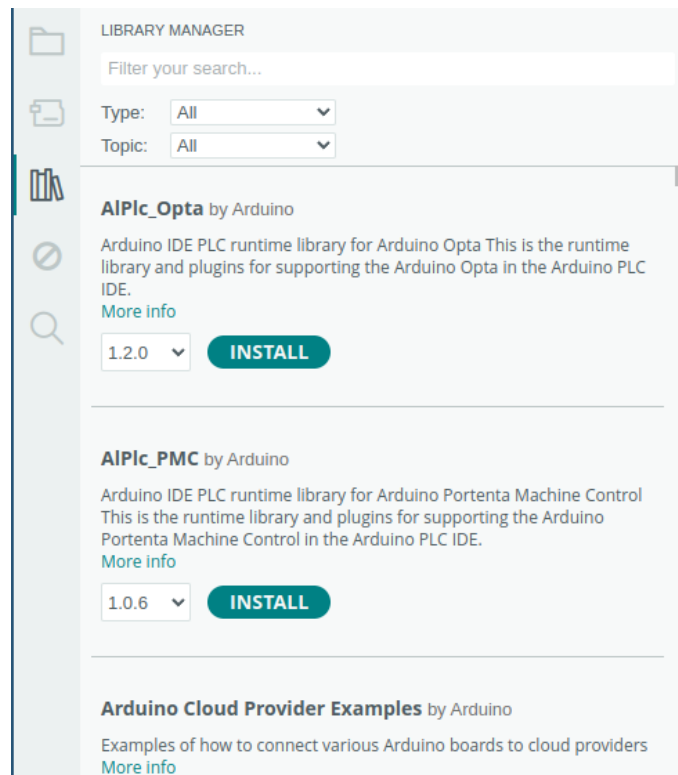

Figure 7: Open the Library Manager to Install Dependencies.
2. **Install Dependencies** - There is one more file that we need to be able to install the update to the board. This is the 'AccelStepper' community Arduino library. To install this package, navigate to the 'Library Manager' by clicking the third icon down in the left-hand menu in the IDE. This button and window is shown in Figure 7.